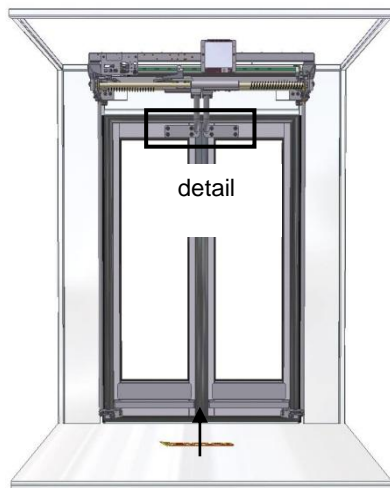

Figure 5
- Loosen the bolts of the door arms to remove the door wings and disconnect the connector (see figure 5 and 6).